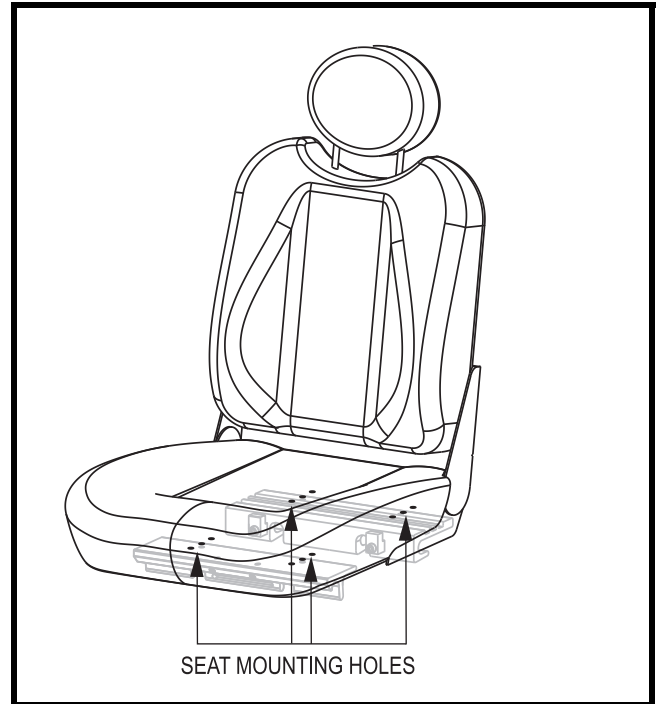

Figure 15. Seat Position Adjustment
5. Reposition the extrusions on a different set of mounting holes. You must move both extrusions the same number of holes either forward or backwards. See figure 15.